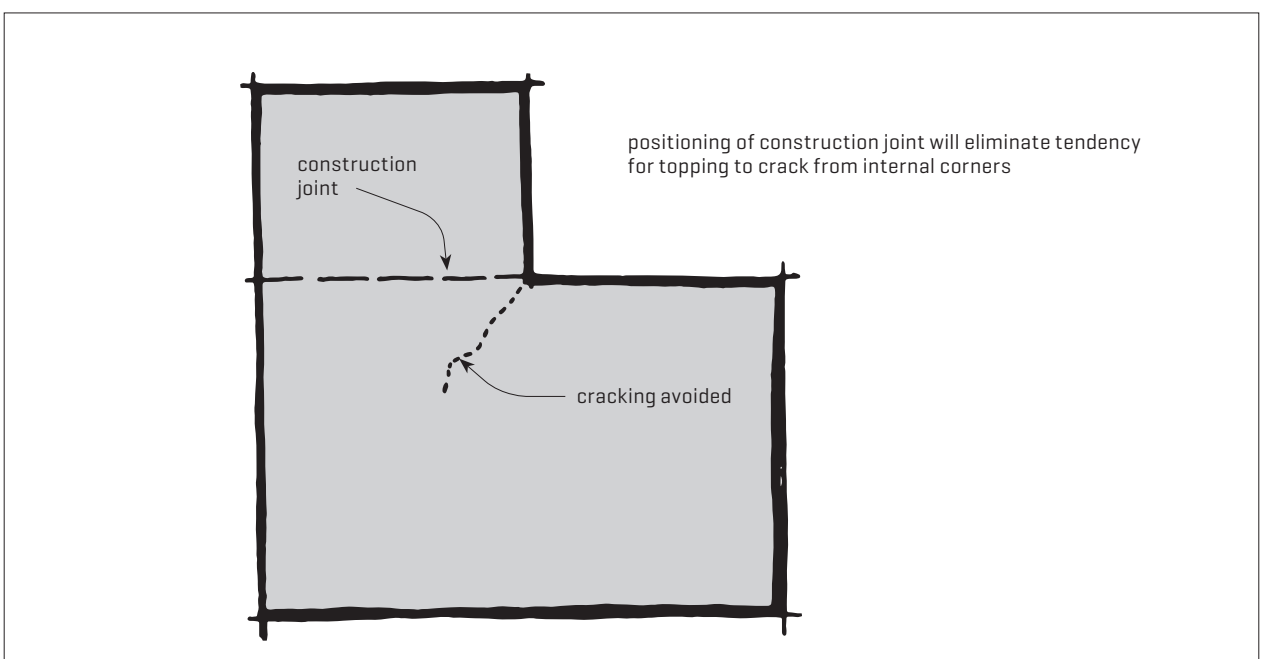

Figure 2. Construction joints.
4.0.3 Eccentrically shaped concrete slabs and toppings with abrupt changes of direction or re-entrant angles are prone to cracking across their narrow dimensions, so they should be divided into two or more regular shaped sections or bays to avoid cracking (Figure 2). Shrinkage control joints should be provided at all T junctions, L junctions and direction turns and around openings such as access hatches to avoid uncontrolled cracking beginning from the corner.